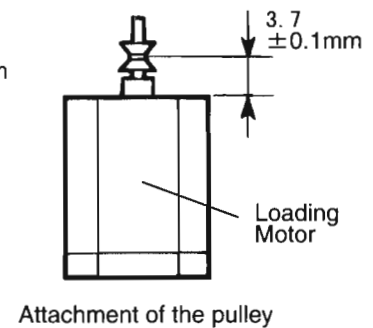

Fig.15
3. Figure 15 shows how to attach the pulley to the loading motor.